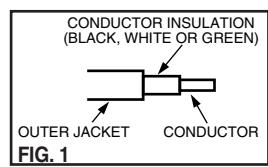

FIG. 1
- Remove strain relief/cover from rear of unit. Lay wire to be stripped against the strip gage on the strain relief cover and mark the strip length on the outer jacket. Carefully cut around the outer jacket and conductors, and prepare as noted in Fig. 1 and 2. **IMPORTANT:** When cutting and stripping outer jacket, if accidental cutting of conductor insulation occurs, cut through injured cord and repeat instruction number 1.